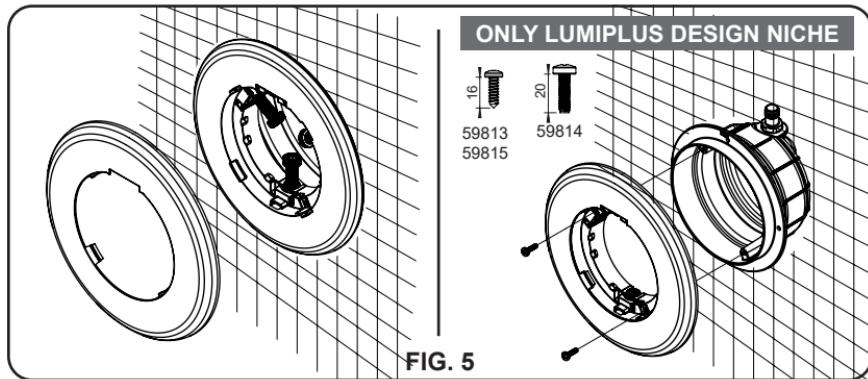

FIG. 5
The pool can be of metal or plastic, using the template, and making a circular hole of 277 mm. diameter and 8 holes Ø4mm (Fig. 5). Place the recess, through the inside of the pool and bolt the 8 screws (A). Make sure that the cable outlet from the recess is on the upper side. Place the liner (B). Place the clamp (C) through the inside of the pool, fasten it to the recess with 16 screws (D). Cut the Liner which is inside the clamp, so that the recess is free and proceed to assemble the projector.